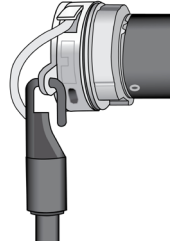

Figure 6: Wand Hook Connection
2. Insert the hook on the end of the wand into the eyelet on the motor crown and push it all the way through so the wand hangs down freely **[Figure 6]**.
2. **Press & hold the Setting Button [Figure 6]** on the shade motor end until the shade jogs once; let go and you'll hear a long beep.